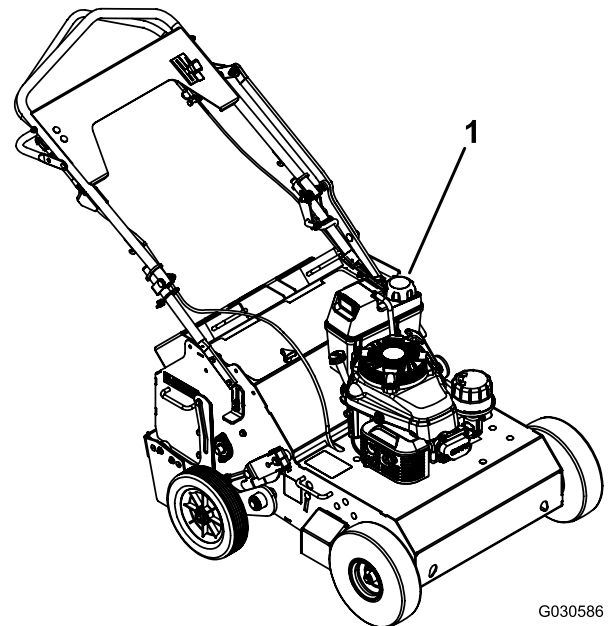

Figure 8
1. Clean around the fuel-tank cap (Figure 8).